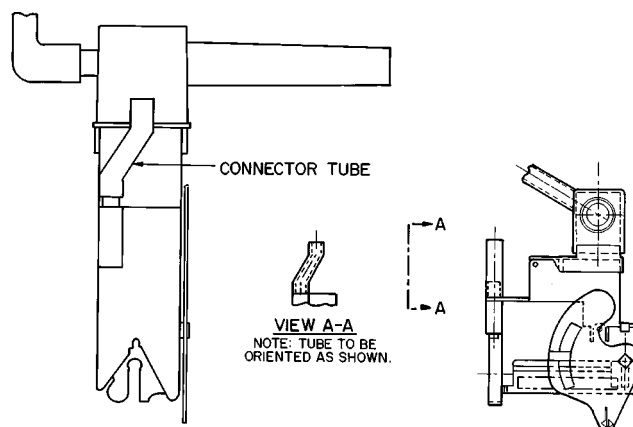

Fig. 13 — Correct Orientation of Connector Tube
5. **37HS2 and 37HS4:** The VAV control packages are shipped with the diffuser thermostat and volume controller connected by a flexible offset connector tube. Verify that the offset is in the correct direction. See Fig. 13.